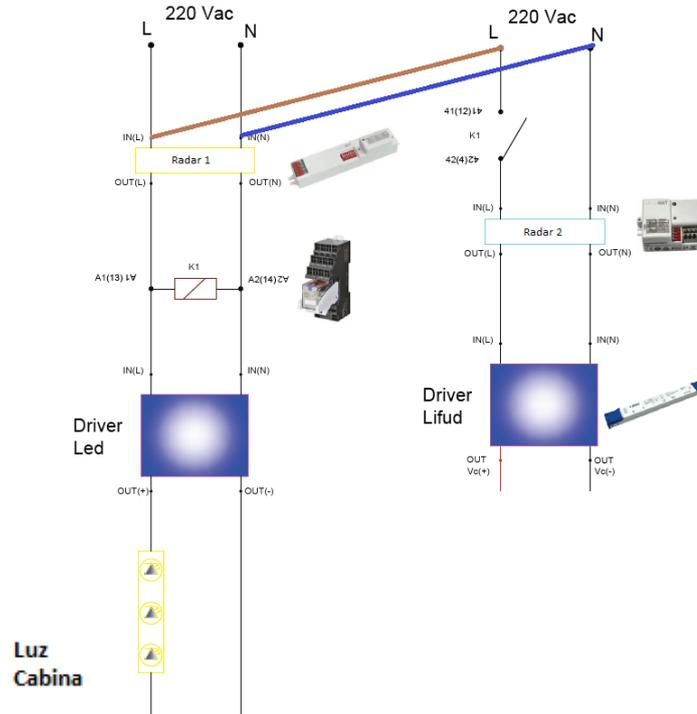

Fig. 7
- VII. The OUT (L) and OUT (N) outputs of the Radar 2 will be connected to the IN (L) and IN (N) inputs of the LED driver (Fig. 7).